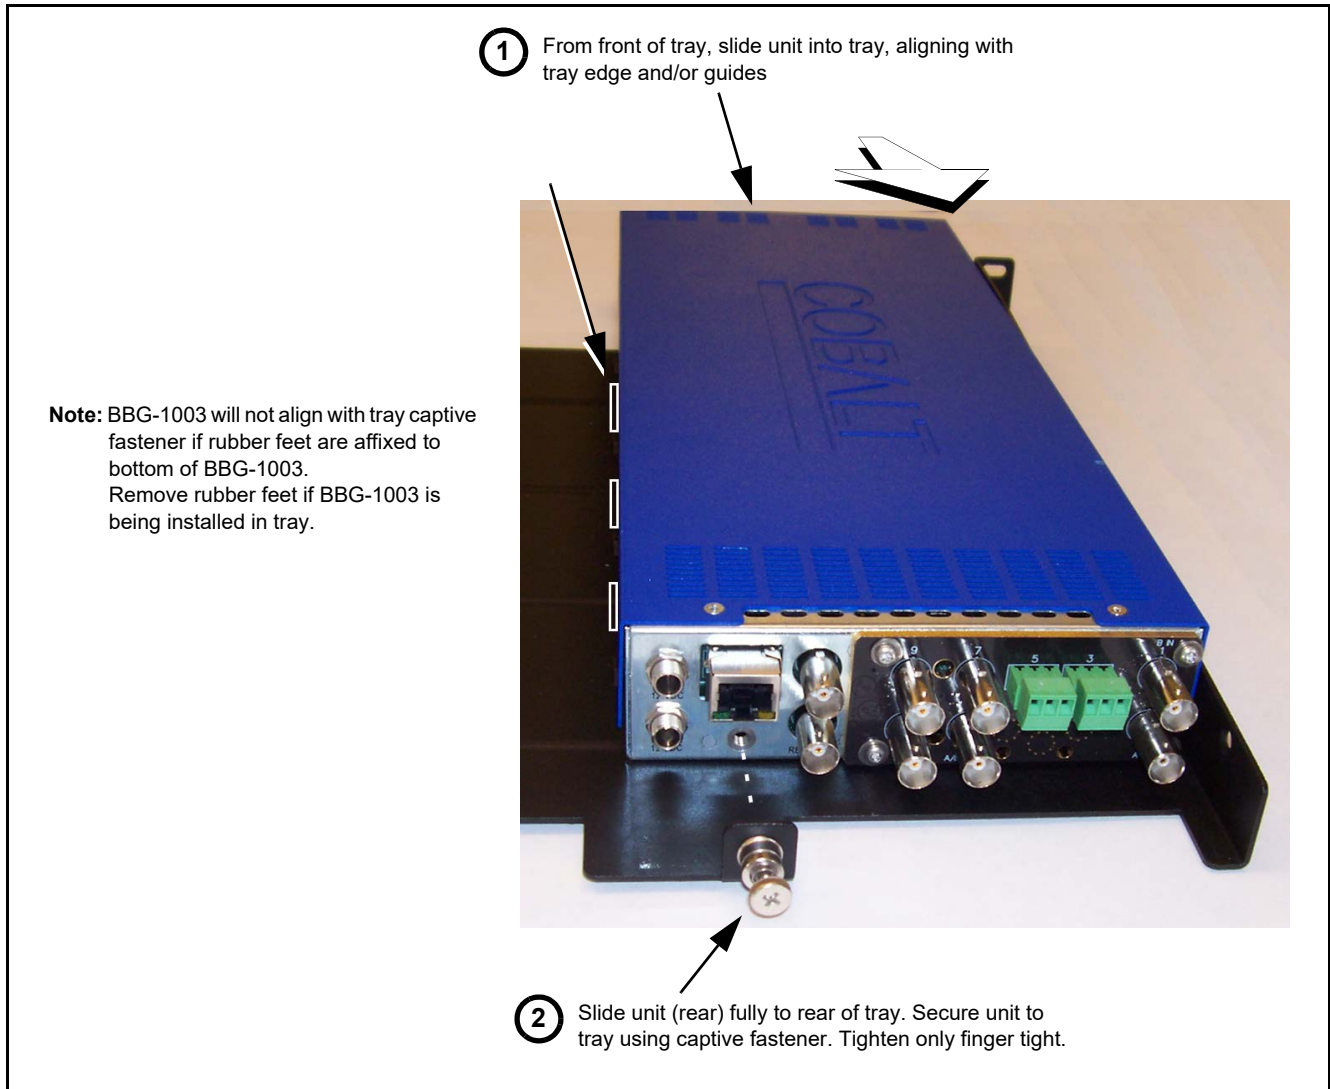

Figure 2-1 Mounting BBG-1003-UDX-ADDA Using Frame Mounting Tray
1. If installing BBG-1003-UDX-ADDA using optional frame Mounting Tray BBG-1000-TRAY, install BBG-1003-UDX-ADDA in tray as shown in Figure 2-1.